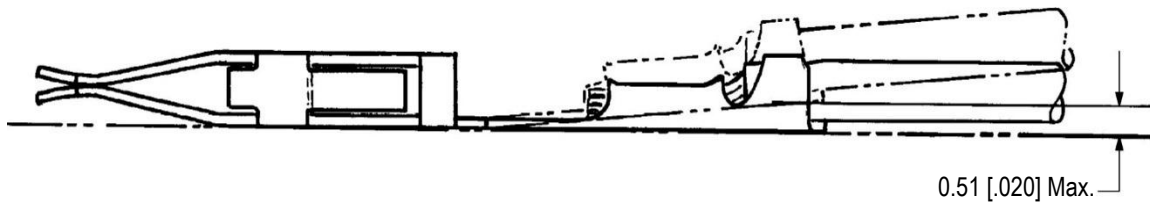

Figure 7
(1) The contact, including the cutoff tab and burr, may not be bent below the datum line or more than 0.51 mm [.020 in.] above the datum line as shown in Figure 7.